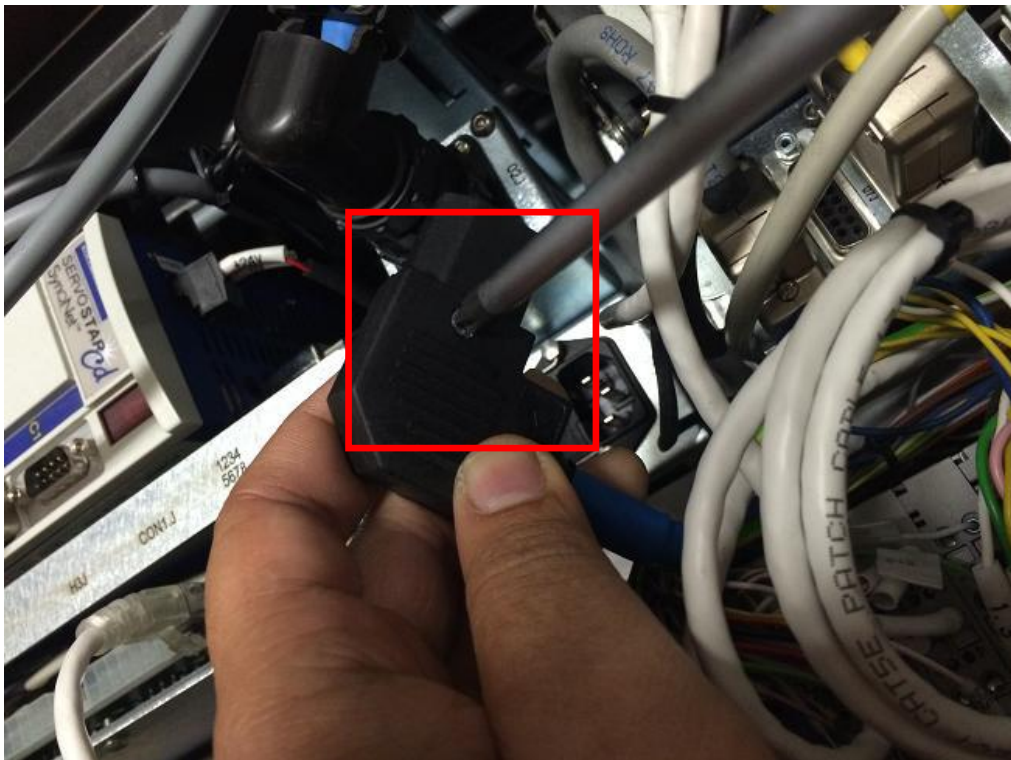

Figure 11
16. Identify Horizontal Type Power Connector where remove at Step 5. Loosen Philip screws at Horizontal Type of Power Connector as Figure 11